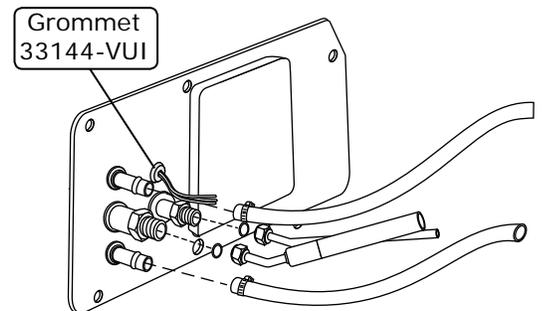

Figure 19
2. Route A/C wires (12 volt/grounds/binary switch/heater control valve) through 3/8" grommet as shown in Figure 19, below).